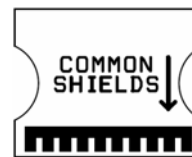
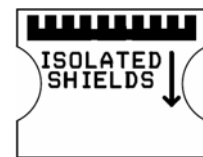

Figure 7a
Figure 7b
**For revision D.0 or higher units** – Provisions have been made to facilitate tying the 8 screens together and bringing them to the common Screen Ground terminal 53 (or G3). This is a user selectable option that is determined based on the position of the jumper installed in the "Shield Ground Option" connector. Figures 7a and 7b illustrate the two possible positions for the jumper. The carrier is delivered with the jumper installed as shown in figure 7b. As indicated in the text on the jumper, the screens are isolated. To tie the 8 screens together and route them to the SG terminal, remove, reverse and reinstall the jumper as shown in figure 7a. The arrow next to the text indicates which direction to install the jumper into the connector for the indicated function.
When using the screen grounding facility on the F880 carrier, the jumper must be installed correctly (Figure 7a) and an Instrumentation Ground must be routed to Terminal 53 (G3). Fieldbus segments require proper grounding in order to function properly.